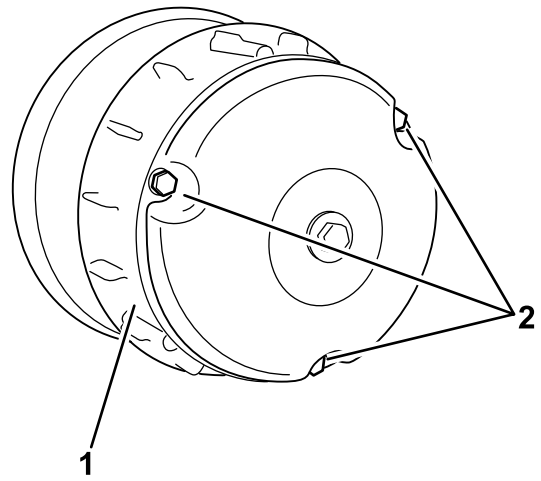

Figure 59
2. Remove the 3 bolts securing the cover to the clutch, and remove the cover (Figure 59).
4. Install the clutch cover and secure it with the 3 bolts (Figure 59) that you removed in 2.